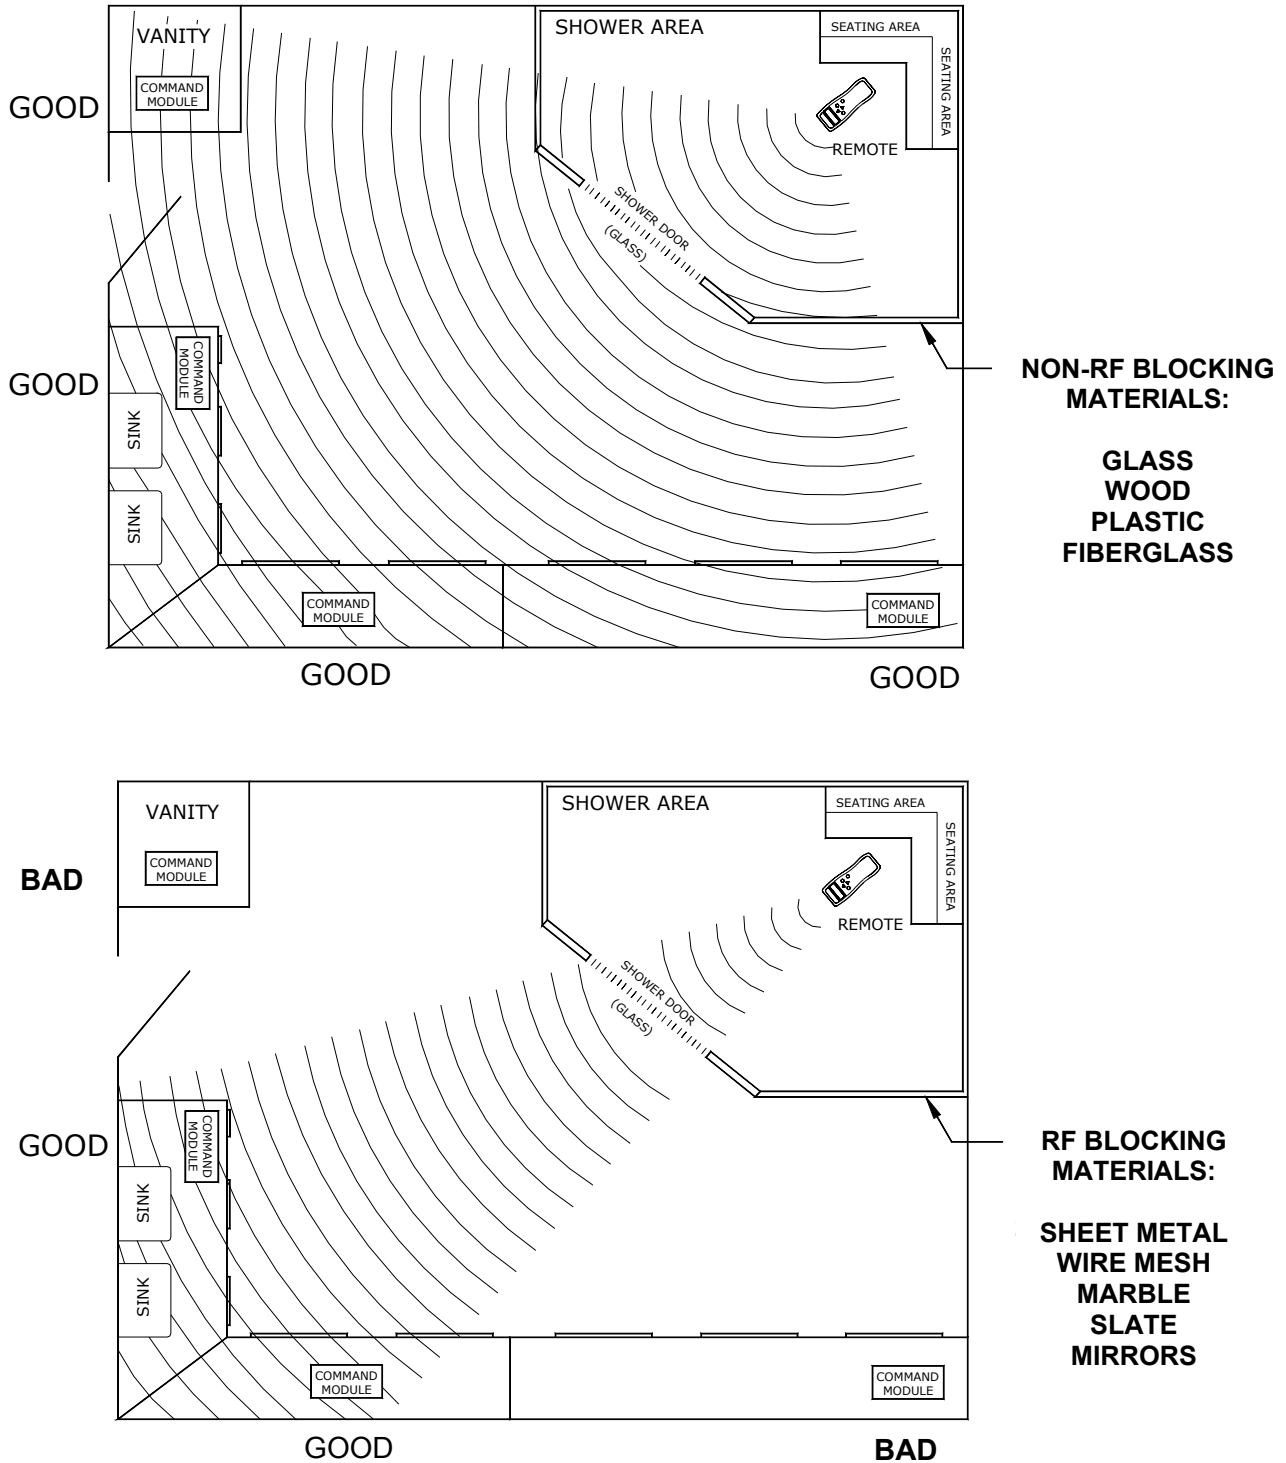

Figure 8
1. **The Command Module location with respect to the Remote Control is important for optimal operation!** Due to FCC regulations on this unit and low power transmission of the RF (radio frequency) signals for compliance with FCC rules, it is highly recommended that the Command Module be placed as close as physically possible to the area where the Remote will be in use. **Do not locate** the Command Module in a place that is obstructed by any metal, marble tile, slate tile, mirrors or materials that would block the radio transmission path between the Command Module and the Remote in use (see Figure 8 for typical placement of Command Module). Also, to avoid radio frequency interference with operation of the Ambiance Environment System, do not locate the Command Module near any devices that operate on or near 900 MHz frequency range (i.e. cell phones, cordless phones, garage door openers, etc.).